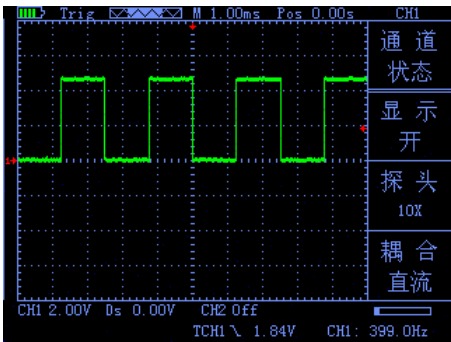

Figure 2-3
- Found no signal, connect the channel 1 to a signal, press "AUTO" button. As shown in figure 2-3: